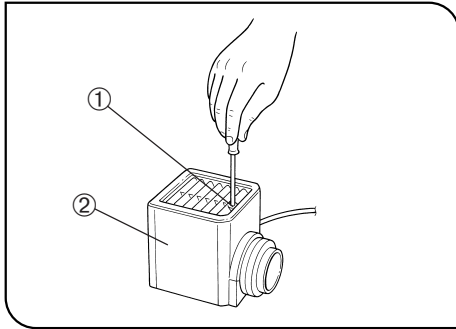

Fig. 56
## 6 Attaching the Halogen Lamp Housing (Figs. 56 to 59)
5. Fit the lamp housing from up and tighten the clamping screw ① by applying downward pressure. (Fig. 56)